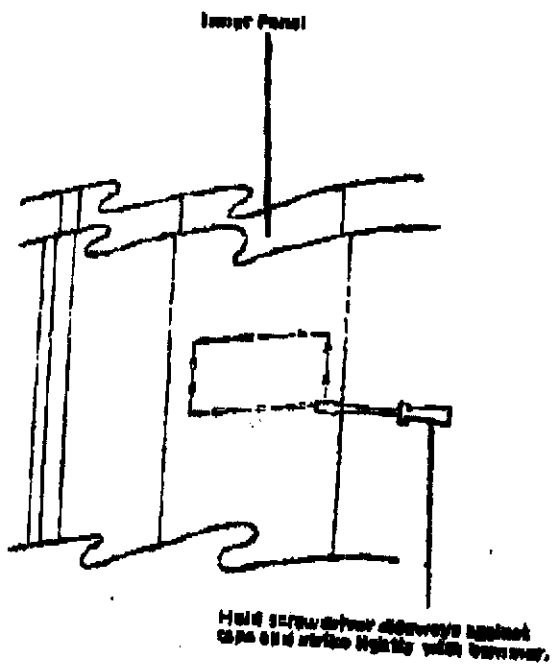

FIG. 2
- STEP 2.** Install plaster ground frame for rear register in hole and nail frame to stud as shown in Fig. 2.